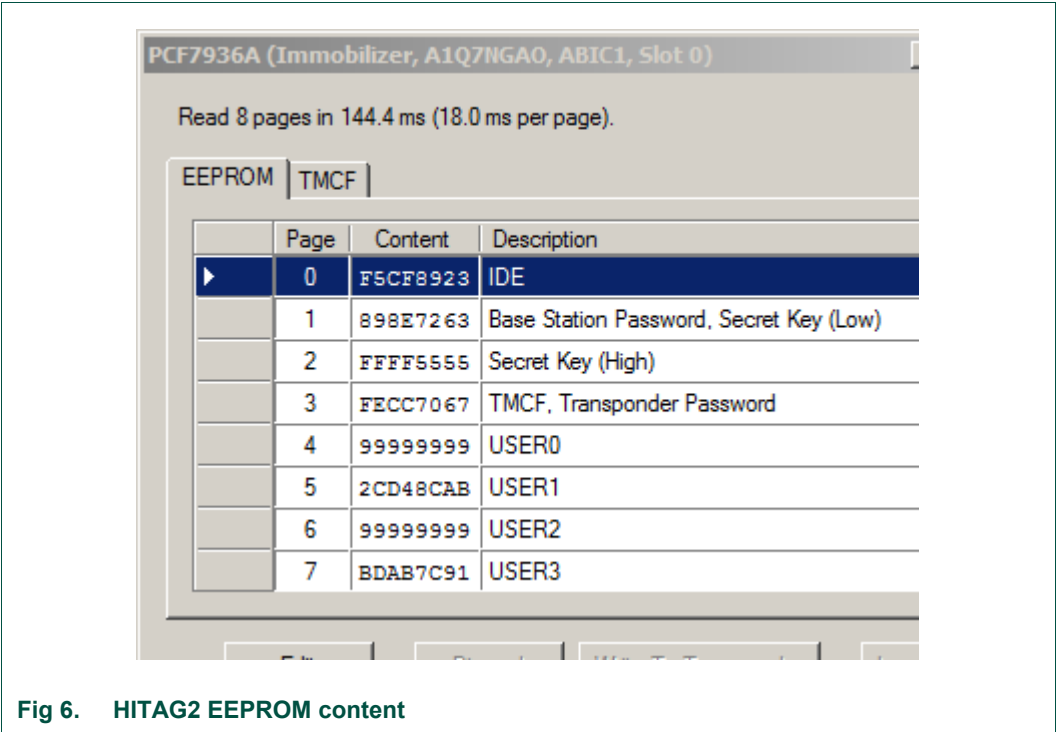

Fig 6. HITAG2 EEPROM content
5. Click the EEPROM... button to open the memory window and see the content (Fig 6).